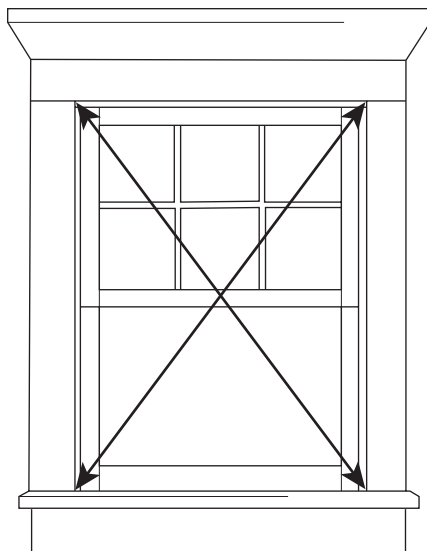

Figure 2
- Step 1. Measure the distance diagonally from the corners of the blind stops and the exterior casing. If there is a difference of $\frac{1}{4}$ " or more between these measurements you may want to tune your storm window before installation (see figure 2).